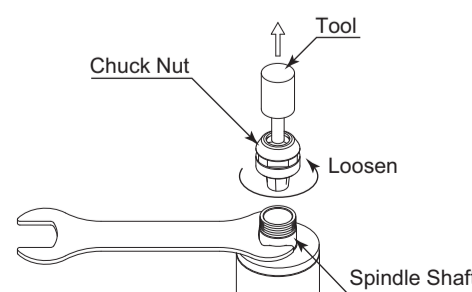

Fig. 7
- Remove the tool according to Section 4 "CHANGING THE TOOL" procedure above and remove chuck nut assembly. (Fig. 7)
- Place the provided wrench (EM20-S6000/EM25-S6000 : 8mm, EM30-S6000 : 12mm) on the spindle shaft, and hold the tool in the collet chuck. Turn it counterclockwise and remove the collet chuck. (Fig. 7)